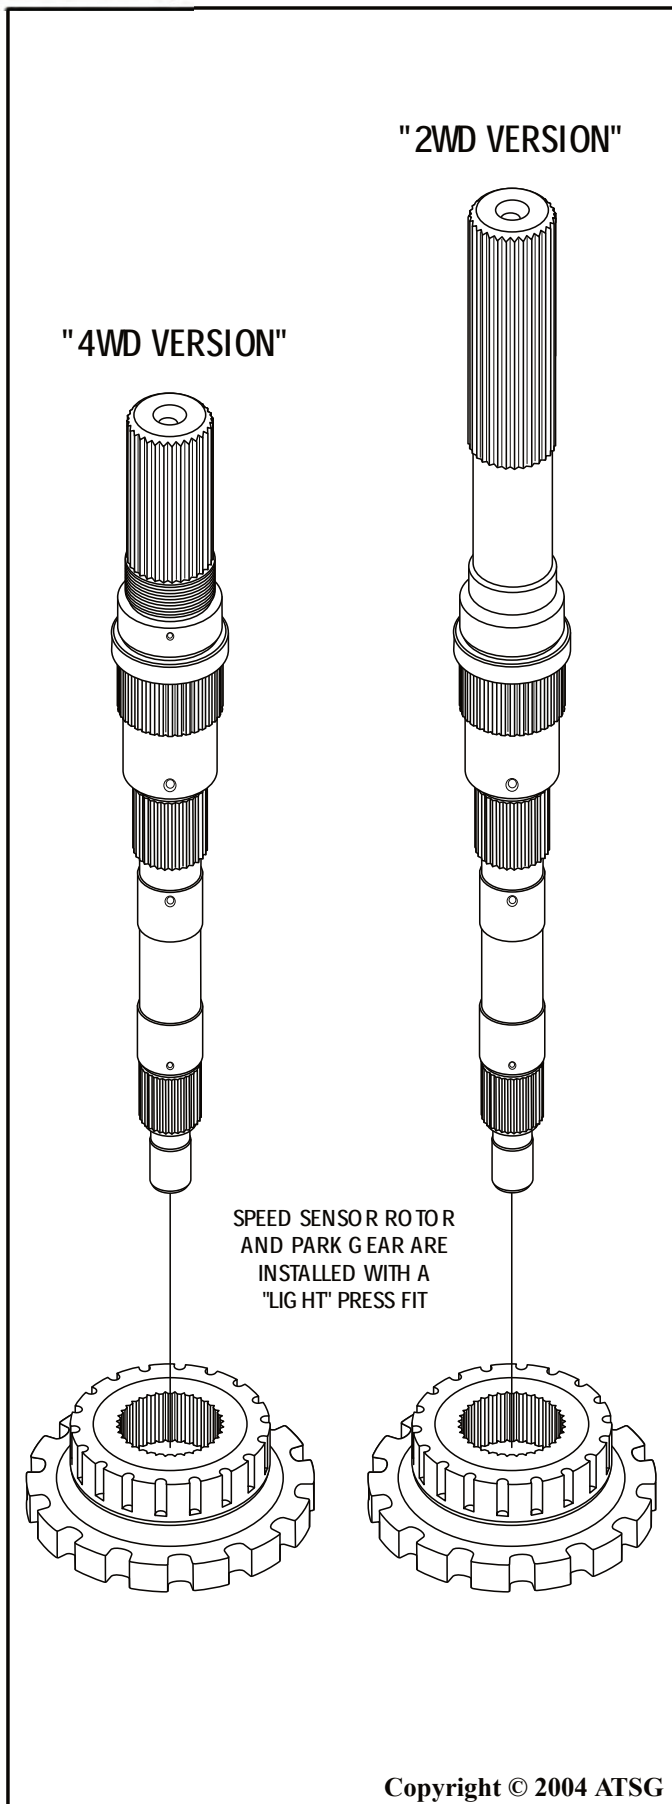

Figure 63
21. Remove and inspect park gear/speed sensor rotor, as shown in Figure 63, and replace as necessary.